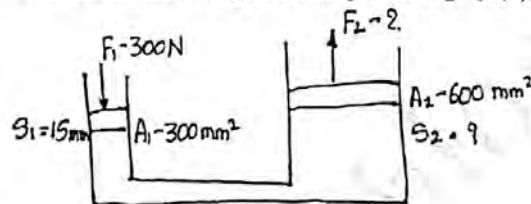

Fig.Q1(b)
b. Define Pascal's law and solve the following problem. [Refer Fig.Q1(b)]